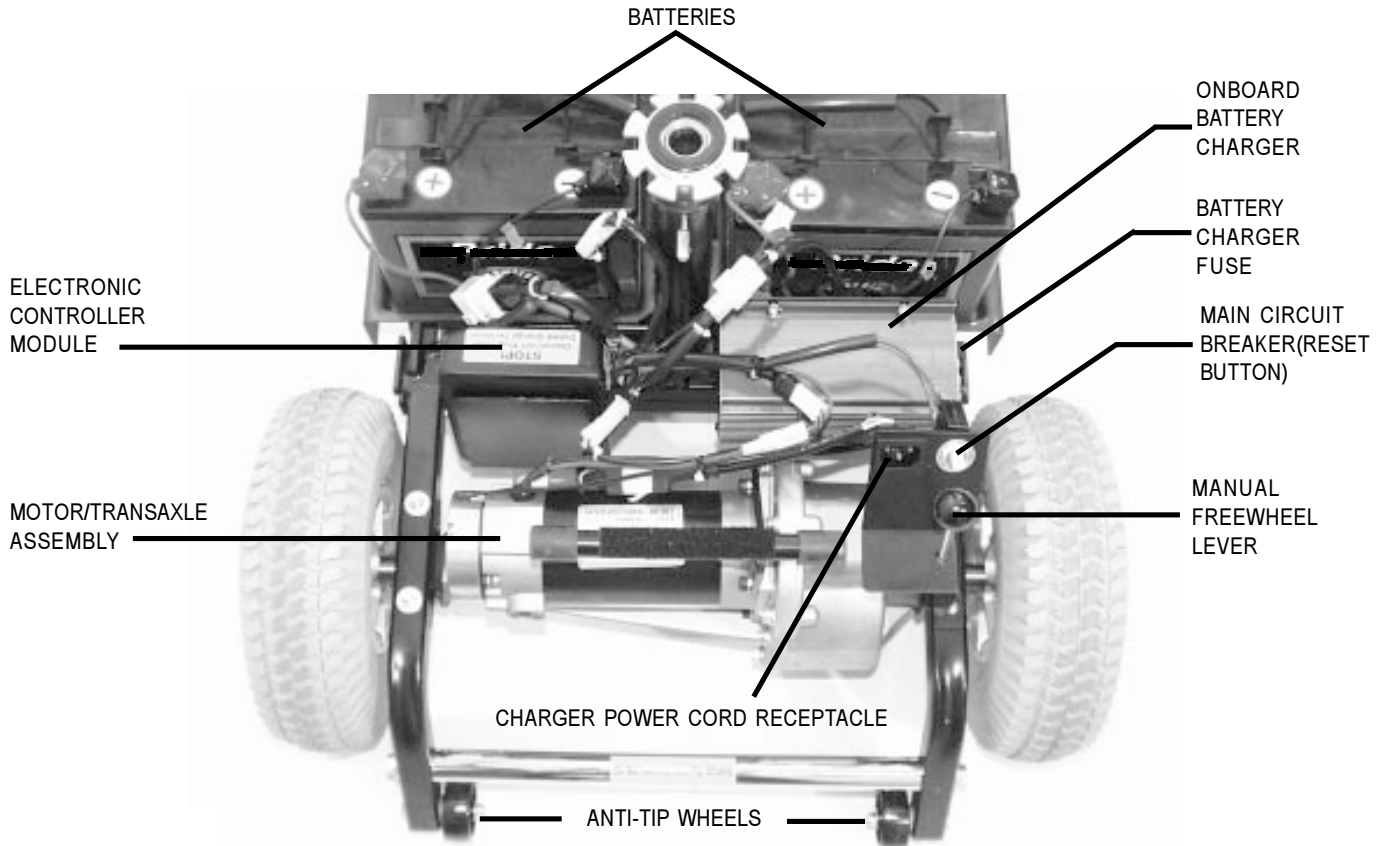

FIGURE 7. REAR SECTION
The onboard battery charger, the charger power cord receptacle, the battery charger fuse, the batteries, the electronic controller module, the main circuit breaker (reset button), the manual freewheel lever, and the motor/transaxle assembly are located on the rear section of your Vista. See figure 7. Refer to IX. “Disassembly and Assembly” for instructions on removing the rear shroud.
- The charger power cord plugs into your Vista’s battery charger by means of a receptacle located on the rear section of your Vista, near the manual freewheel lever and the main circuit breaker reset button. See figure 7.
- The main circuit breaker is mounted on the rear section of the Vista. See figure 7.
- The manual freewheel lever is located on the end of the motor/transaxle assembly at the right rear of the Vista. See figure 7.
The motor/transaxle assembly consists of a geared transmission and differential. This one piece, direct drive, fully sealed assembly provides quiet operation with maximum power and long life. See figure 7.
The anti-tip wheels are an integral and important safety feature of your Vista. Do not, under any circumstances, remove the anti-tip wheels from your Vista. See figure 7.
Your Vista uses two long-lasting, 12-volt, deep-cycle batteries that are sealed and maintenance free. They are recharged by an onboard 3-amp charging system designed for ease of use and convenience. See figure 7.